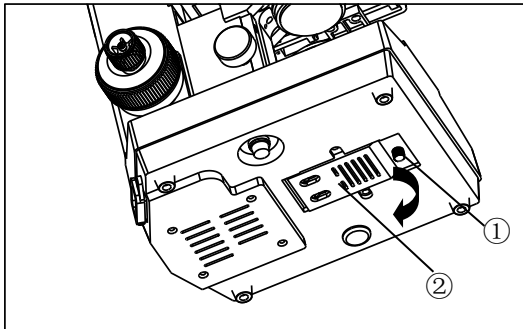

Fig.11
2.2.7 Installing and replacing the lamp (Fig.11, 12)